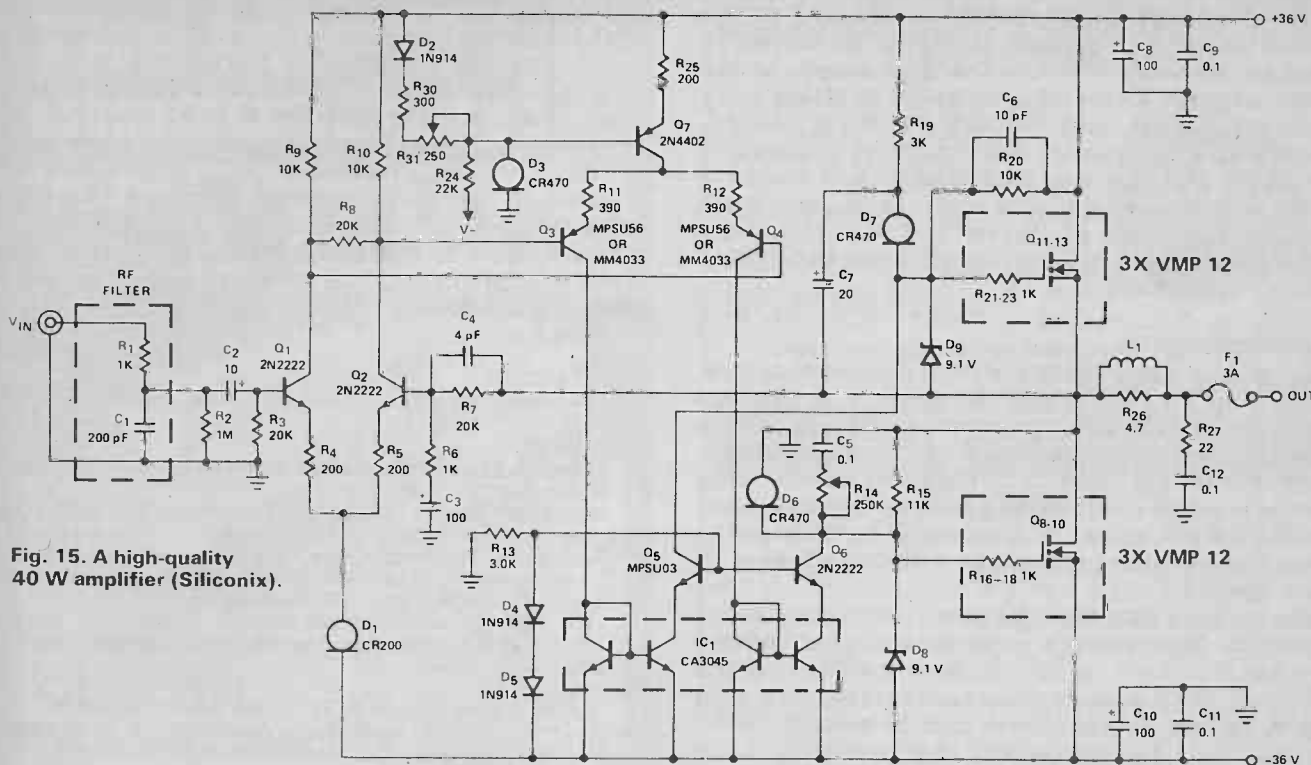

Fig. 15. A high-quality 40 W amplifier (Siliconix).
In Fig. 15 we have a high quality power amplifier designed by Lee Shaeffer of Siliconix Inc. (5) and described in their application notes. Output current capability is increased by using three VMP12s in parallel; providing for 6 amp current, 75 Watt dissipation and optimizing the load at 8 ohms. Q11-13 operate as a source follower, while Q8-10 form a quasi source follower. This is accomplished by applying local feedback from drain to gate via R14, R15, and driving the gate by a modified current source. This consists of a cascode circuit with a constant current diode as the load.